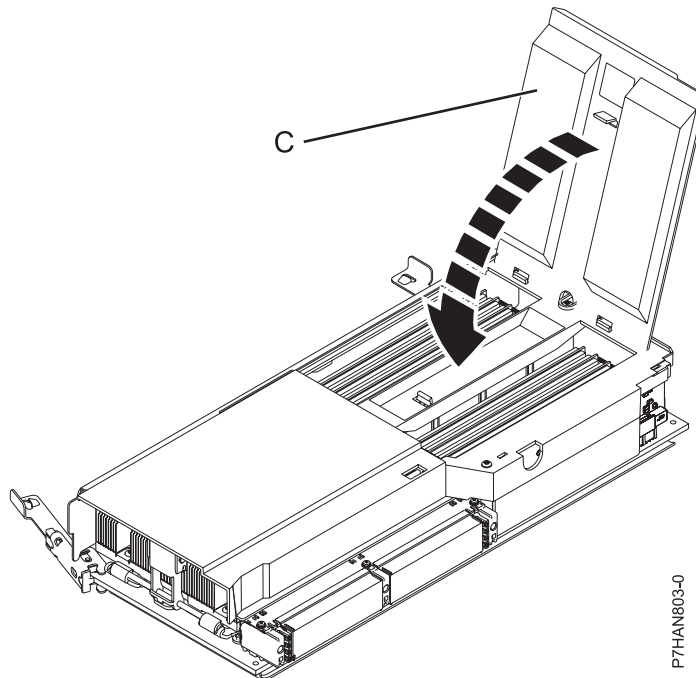

Figure 7. Closing the memory module cover
9. Close the memory module cover (C) until it locks in place, as shown in Figure 7.